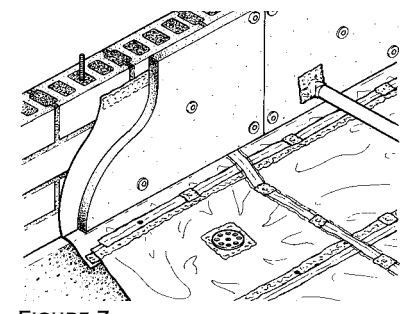

FIGURE 7
8. Roll out and install a permanent Type I Vapor Retarder such as a 6-mil poly liner. The vapor retarder sheets should overlap each other by at least 6 inches. Carefully seal the seams at the wall poly liner with duct tape and mastic. Also seal all joints and penetrations in the field. (See Figure 7.) Secure each joint with duct tape, then brush on a layer of mastic. Mastic should extend at least 1 inch beyond the tape on each side.